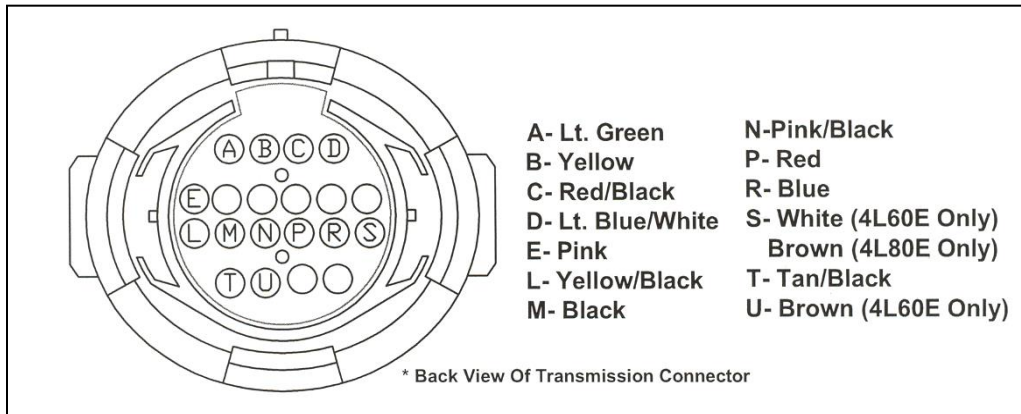

Figure 23 Transmission Connector Pin Out
***Note:** All harnesses have the transmission connector pre terminated to allow use of the 4L60E transmission. In applications where a 4L80E is to be used, follow this procedure to change your transmission connector to ensure all functions of the transmission work properly. See **Figure 23** for re-pinning the transmission connector